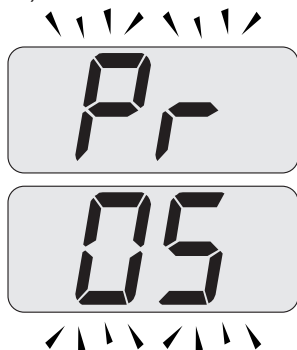

Fig. 9.5
- Scroll the various parameters using keys 17 or 18 until the letters **Pr** that alternate with code **05** are displayed on the LCD display, indicating that "parameter 05" (Fig. 9.5) has been activated.
- Press keys 16 and 17 (Fig. 9.3) at the same time to exit without changing the value (return to the parameters list Fig. 9.5).